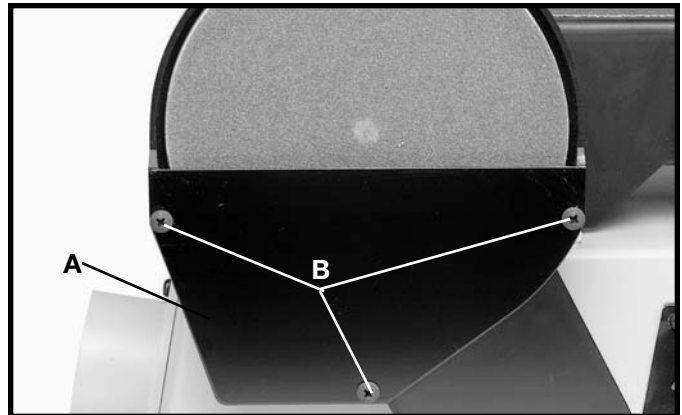

Fig. 10
1. Assemble the lower cover (A) Fig. 10, to the belt and pulley guard, using the three 1/2" (12mm) long sheet metal screws (B).